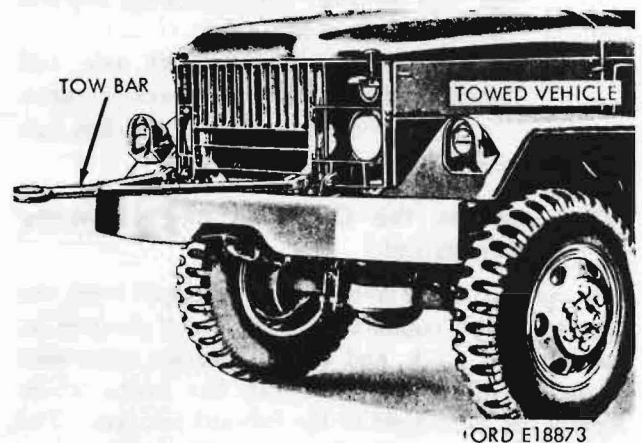

Figure 105. Truck with tow bar attached.
- (1) Connect the tow bar, chain, or line to the front lifting shackles (fig. 105).
- (2) Place the transfer-shift lever and the transmission gearshift lever in the NEUTRAL positions.